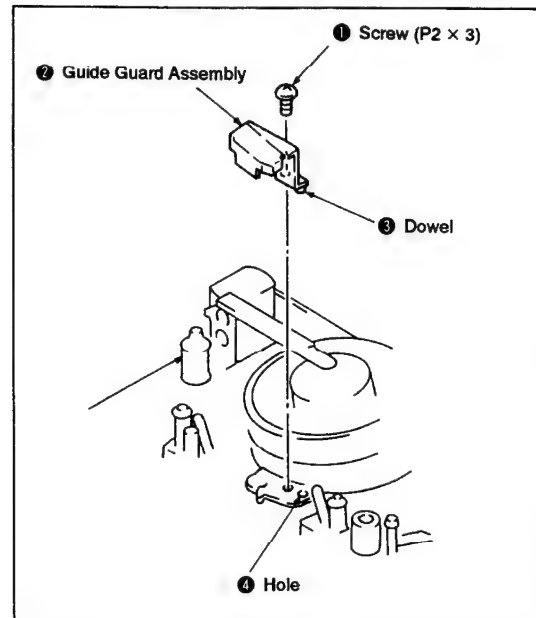

Fig. 3-2.
1. Removal (See Fig. 3-2.)
- Remove the screw ①, then remove the guide guard assembly ②.
2. Installation (See Fig. 3-2.)